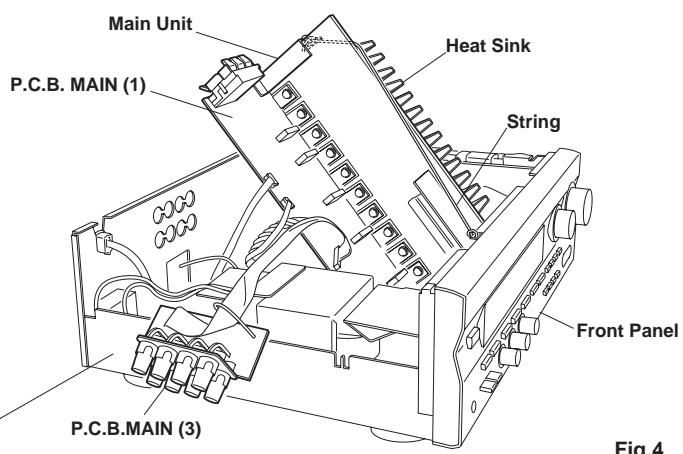

Fig.4
b. Take out the P.C.B. MAIN (3) to Left side in Fig. 4.
place the Main Unit on its side as shown in Fig. 4.
and screw-hole of the Front Panel in Fig. 4.